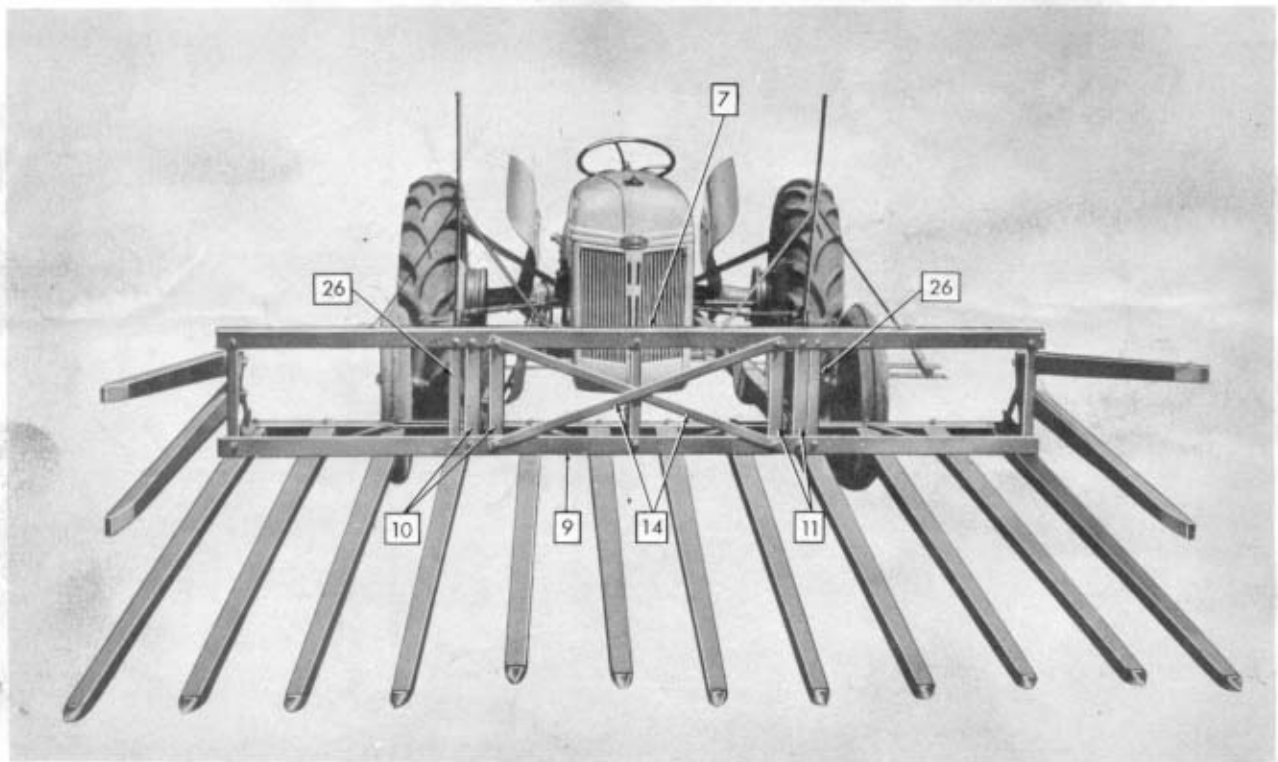

Figure 4
**Step 11:** Mount pair of right-hand (10) and pair of left-hand (11) push beam angles to top cross angle (7) and bottom front cross angle (9) inside and next to the 2nd and 4th inner steel triangles (26). See Figure 4. These push beam angles have four holes near one end. This end is placed downward with the holes facing inward and toward each other.
**Step 12:** Place long cross braces (14) in position diagonally between the two inner push beam angles (10 and 11) with the upper ends attached to the upper front cross angle (7) and the lower ends to the bottom front cross angle (9). Braces are in front of cross angle and attached by the same bolts that hold the two inner push beam angles. See Figure 4.
**Step 16:** Mount the four steel upright side braces (5) in position from top cross head angle (7) to steel push-off uprights (6). Figures 4 and 5.